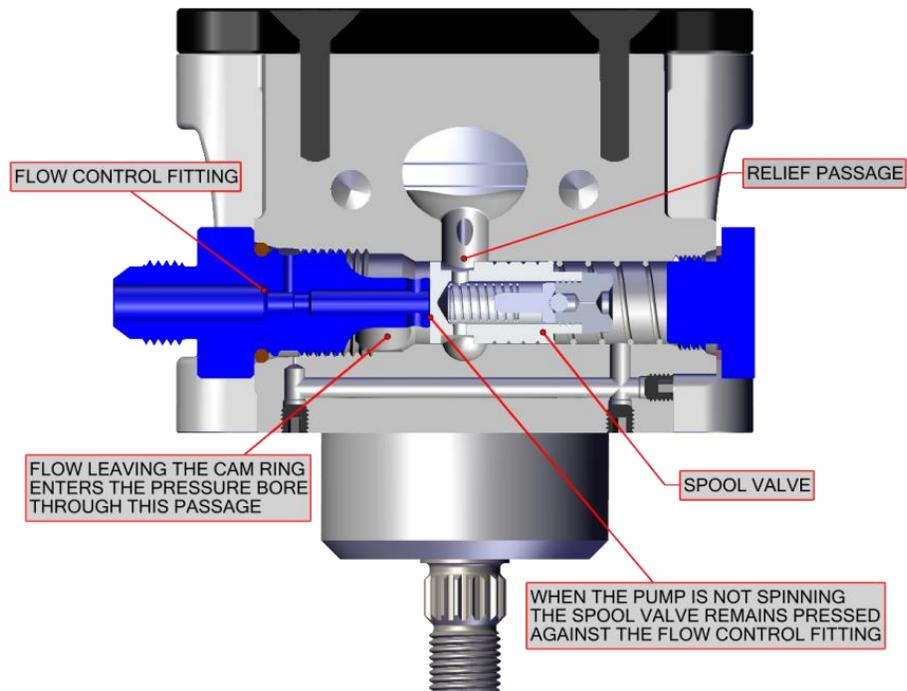

Figure 3 - Pressure Bore with PSIII-Not Spinning
Fluid flows from the inlet and is directed to the back of the camring assembly. This assembly is made up of 4 main types of parts: the camring, the rotor, rotor vanes (10), and the pressure plate. Fluid is “sucked” into the back of the camring where it is directed inside and compressed by the rotor and rotor vanes. The centrifugal force of the spinning pump causes the vanes to be thrown outward. They are then forced back into their groove by the constricting camring. This is how the fluid is pressurized and is “squeezed” out through the pressure plate. This pressurized fluid is now pushed through a passage that goes to the pressure bore (see Figure 3).
The passage that carries the fluid from the camring can be seen below. Referring to Figure 3, you can see a cross section of the pressure bore and all of its internal components.